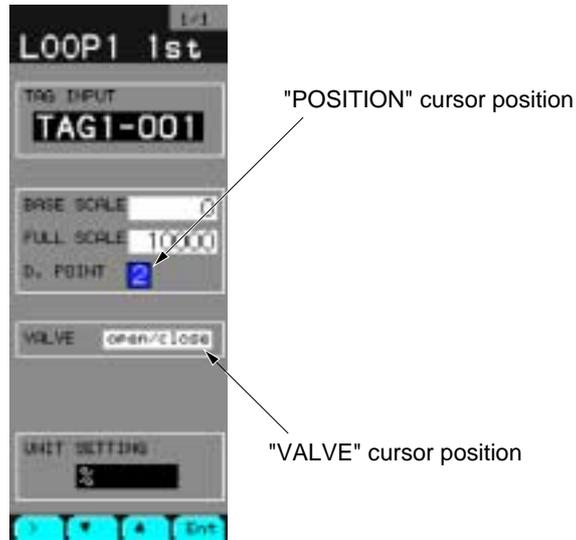

Fig. 4-32
- ⑰ Move the cursor to “D.POINT” (Fig. 4-32).
- ⑱ Press the “Ent” key. The cursor will turn yellow.